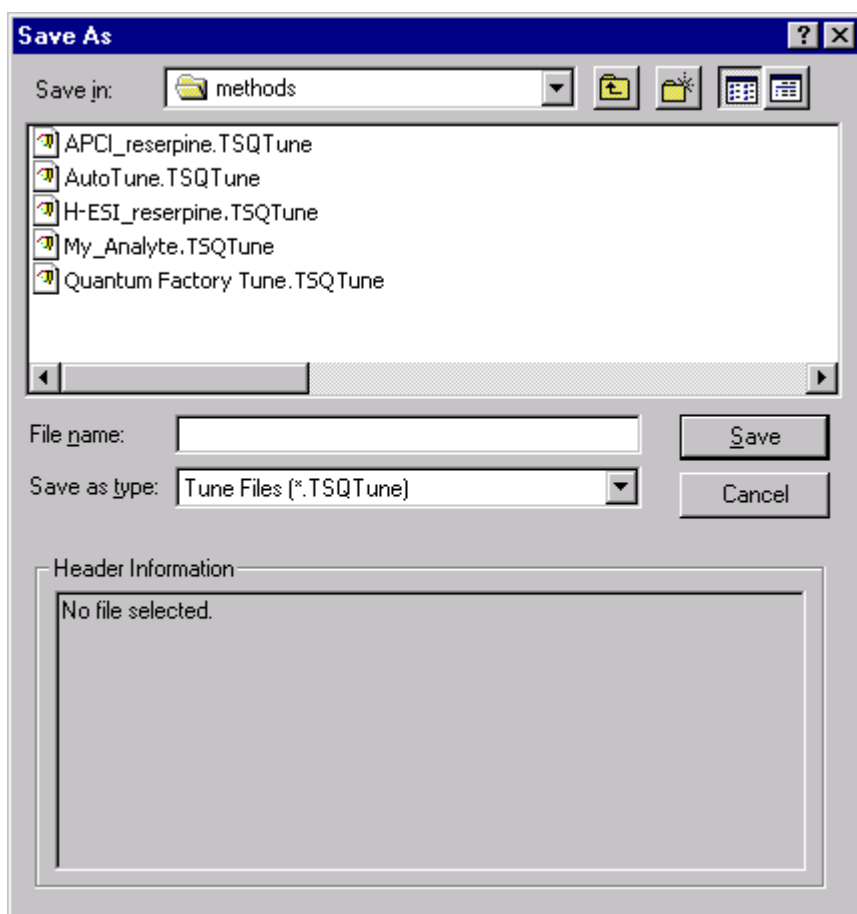

Figure 7-13. Tune Method Save As dialog box
- a. Click on **Save Tune As** to open the Save As dialog box. See Figure 7-13.